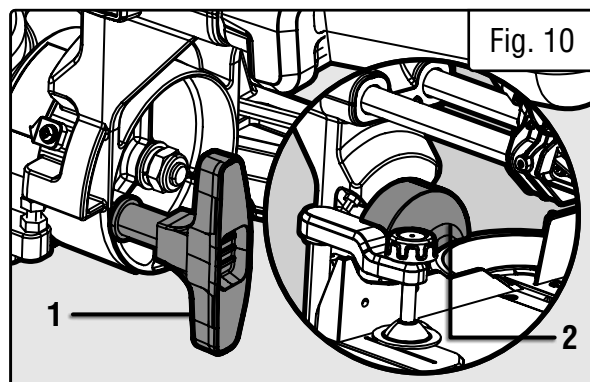

Fig. 10
1. Loosen the bevel lock knob (Fig. 10 - 1).
2. Tilt the saw head to the desired angle on the bevel scale (Fig. 10 - 2).